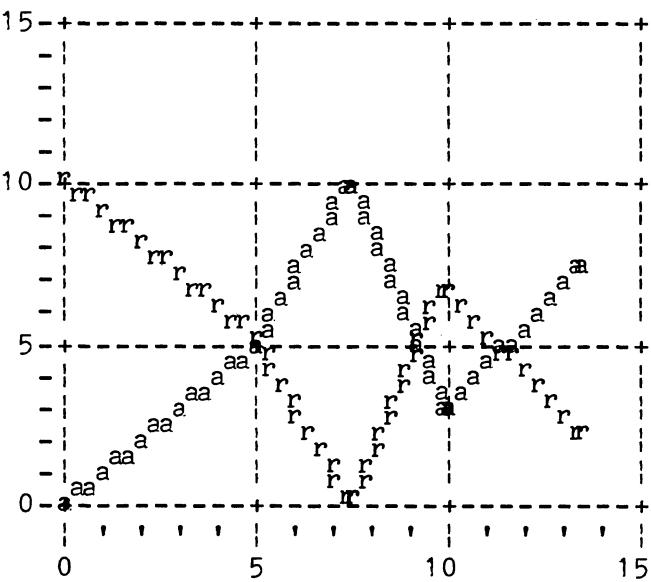

Figure 4-10. ABSOLUTE/RELATIVE VECTOR PLOT EXAMPLE
Following are the step by step procedures used to create the composite ABSOLUTE-/RELATIVE Vector Plot Example shown in Figure 4-10. The reader is encouraged to use the forms shown as Tables 4-4, 4-5 and 4-6 as aids in gaining expertise in HyPLOT application. The HyPLOT Worksheet at the end of this subsection includes blank copies of Tables 4-4 and 4-5. The blank worksheet can be copied and used as an aid when formulating the command sequences required to produce a desired plot, as demonstrated in HyPLOT Example A and HyPLOT Example B.
The graph scale shown in Figure 4-10 is 35 character spaces wide x 12/120" increments per character (10 pitch) = 420/120" increments. It is 18 line spaces high x 8/48" increments per line space (6 lines per inch) = 144/48" increments. The graph scale is located on the page so that the 0/0 scale point ("A") is located at $21 \times 12 = 252$ increments horizontally (X) and $15 \times 8 = 120$ increments vertically (+Y) FROM the "x" in the top left corner which defines the 0/0 point or origin on the page. The printer assumes the "x" or 0/0 ORIGIN position upon entering the HyPLOT Mode, and the first vector plotting move must always be in a +Y or DOWNWARD direction and a +X direction RIGHT away from the origin. The printer will not execute negative going commands from the 0/0 page starting position.